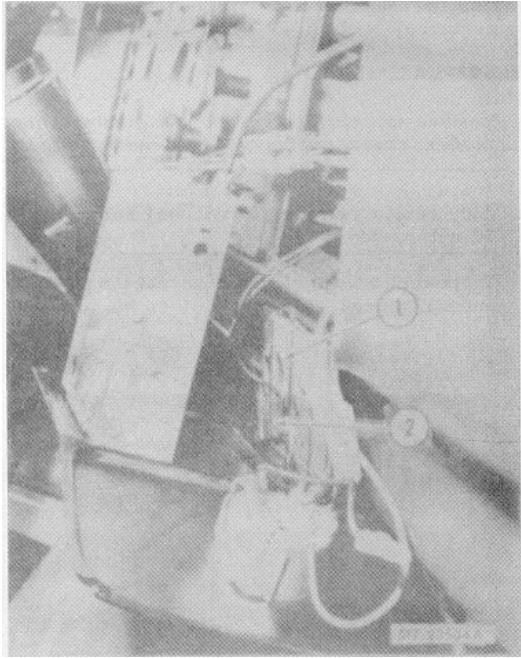

Fig. 18 Ashtray Light
3. Tip panel outward to gain access to ashtray light (Figure 18).